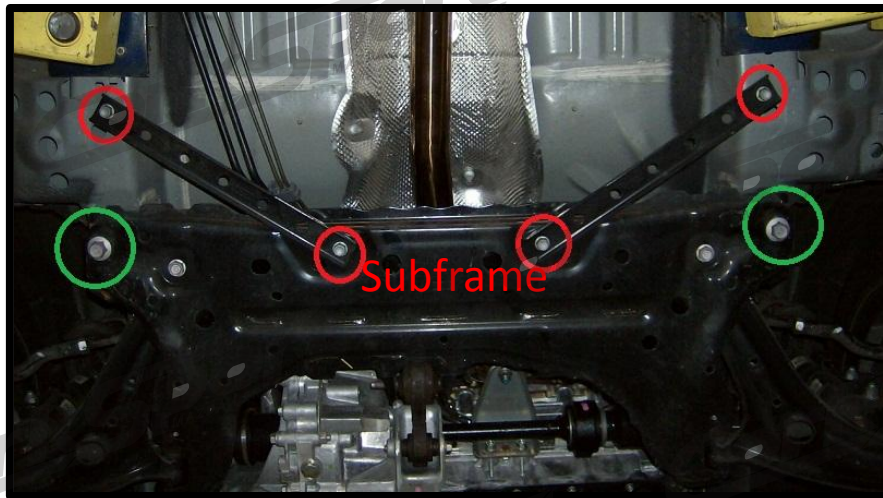

Figure 1b
- 1d) Unbolt the subframe braces by removing the four (4) bolts (circled in **red** in **Figure 1b**) using a 14mm socket
- 1e) Remove the two (2) bolts (circled in **green** in **Figure 1b**) using a 19mm socket
- 2e) Reinstall the 19mm subframe bolts (circled in **green** in **Figure 1b**) and torque them to 70-85ft-lbs
- 2f) Install the subframe braces by reinstalling the 14mm bolts circled in **red** in **Figure 1b** and torque them to 30-40ft-lbs
- D) Unbolt the subframe braces by removing the four (4) bolts (circled in red in Figure 1b) using a 14mm socket.
- E) Remove the two (2) bolts (circled in green in Figure 1b) using a 19mm socket.
- E) Reinstall the 19mm subframe bolts (circled in green in Figure 1b). Torque them to 70-85 ft-lbs.
- F) Install the subframe braces by reinstalling the 14mm bolts (circled in red in Figure 1b) Torque the bolts to 30-40 ft-lbs.